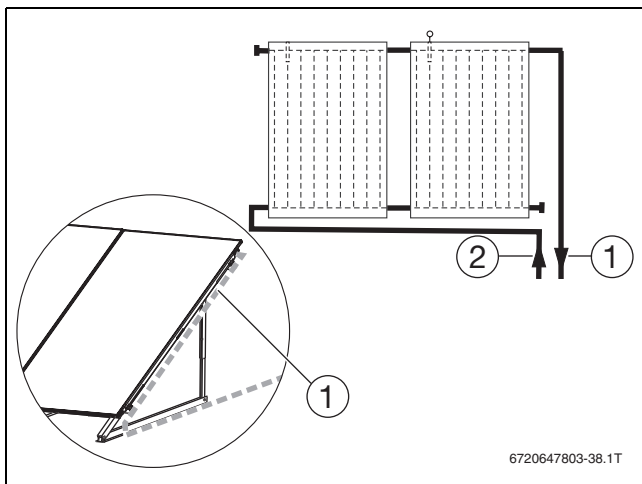

Fig. 59 Collector array pipework
- ▶ Route on-site flow pipes along the collector (→ Fig. 59, page 37).